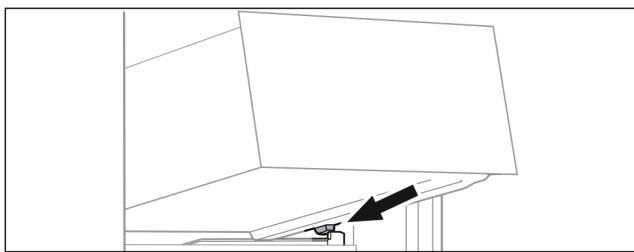

Fig. 113
- Place drawer at an angle behind the stoppers on the moulded rib. (see Fig. 113)